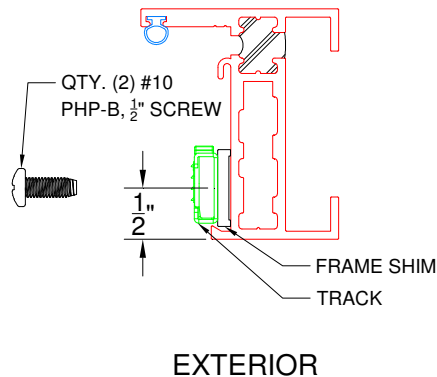

Figure 3:
3. Mark the two (2) hole locations of the track. These hole locations should be a 1/2" from the exterior, Figure 3.
5. Place the Frame Shim between the track and jamb and fasten using #10 FHP-A-UC Screw, 1/2" Screw (Figure 3).